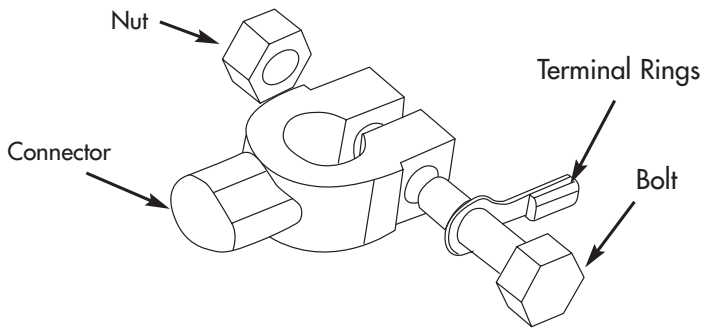

FIGURE 3. - Ring Terminal Connection Diagram
3. Position the BLACK terminal on the NEGATIVE post connector; then replace the nuts. (Figure 3)
4. If there is any problem connecting the output leads, check with a reputable auto supply store or contact the Customer Service Department toll free (866) 584-5504 for assistance in finding an appropriate connection device for your particular application.